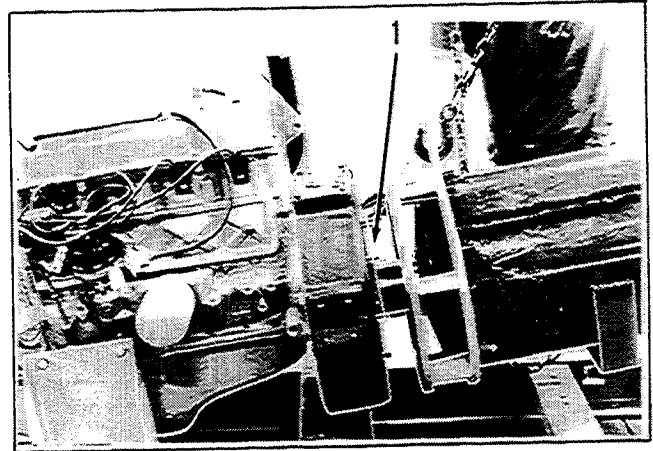

Figure 6-2. Separating Generator & Engine
7. Work drive discs over studs to separate generator from engine. Figure 6-2.